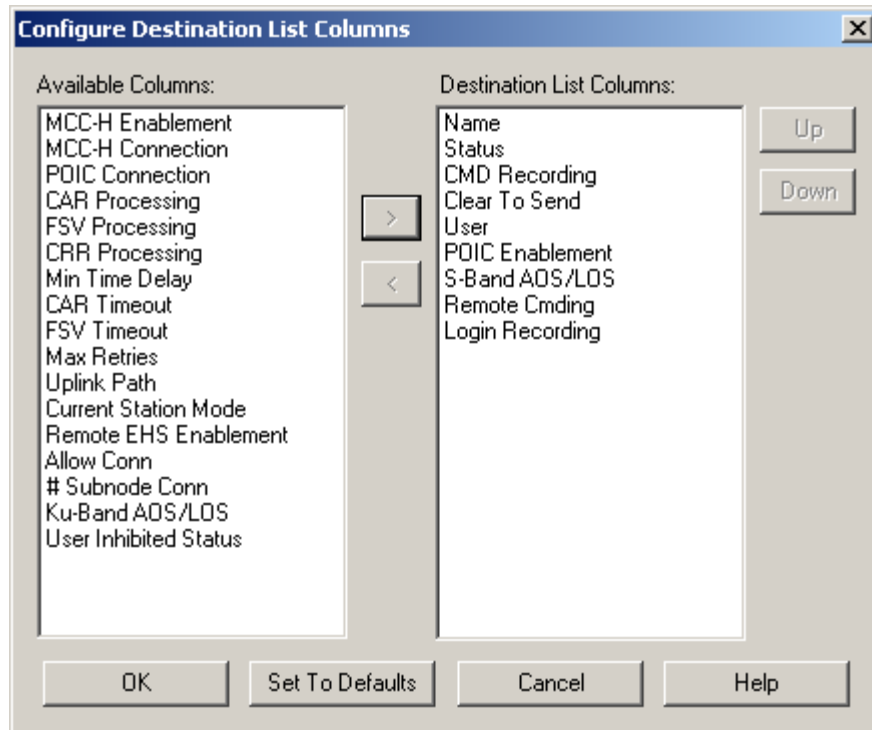

Figure 5 Login Recording Move to Destination List Columns List
3. The items in the Available Columns list show information that is not currently being displayed. The Destination List Columns list shows the information that is being displayed. The arrow keys in the middle can be used to transfer information from one list to the other. In the next section we are going to be working with Login Recording. Therefore, let's move that item from the Available Columns list to the Destination List Columns list so that it will be displayed. In the Available Columns list click on the Login Recording item (4th item in the list). Once it is selected push the > button to move it to the Destination List Columns list. The dialog should now look like Figure 5.